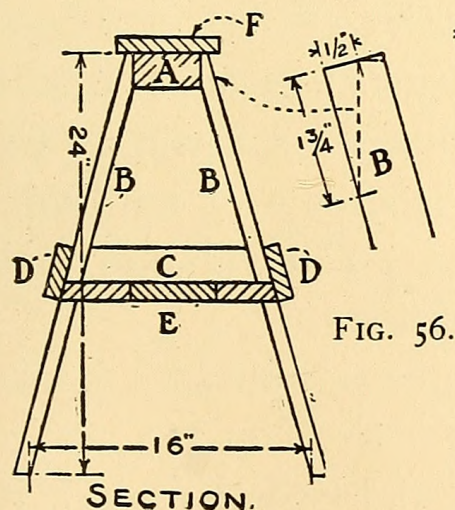

FIG. 54.
**A Horse** which is very much handier than the simpler forms of carpenters' horses, in so far as the board top gives a broader surface to lay work upon and the shelf underneath makes a convenient place to lay saws and other tools. This horse is very commonly used by carpenters. Details for its construction are shown in Figs. 54, 55, and 56. Cut the body *A* 3
feet 10 inches long out of a piece of 2-by-4, and cut the four legs *B* to the dimensions shown in Fig. 55 out of 1-inch stuff, with one edge tapered  $\frac{3}{4}$  inch. Trim off the upper ends of the legs as shown in Fig. 56, so when the legs are nailed to the body the lower ends will be 16 inches apart. Nail the legs in place about 5 inches from the ends of the body, then cut the end rails (*C*, Fig. 54) and the side rails *D* 3 inches wide and of the required length and nail them to the legs 9 inches below the body.
Cut the tray bottom boards to fit between the rails (*E*, Fig. 54) and fasten them with nails driven through the rails into their edges. Cut the top board *F* 4 feet long out of 1-inch stuff and screw it to the body, countersinking the screw-heads as a protection to your edge tools.